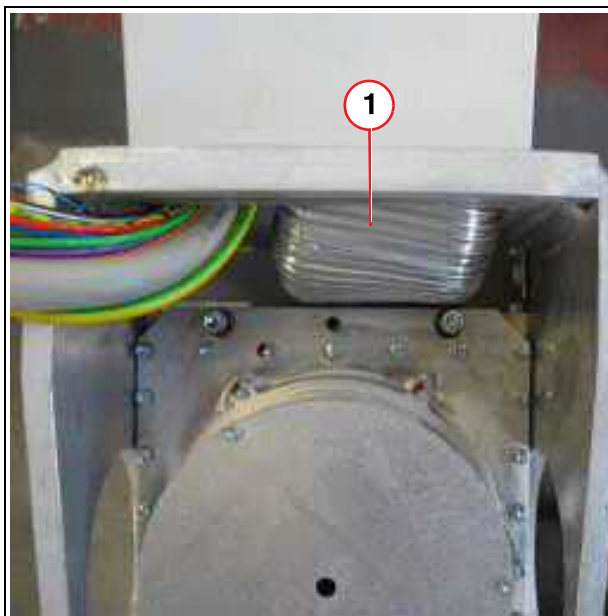

Fig. 17: fan
5. Remove the flexible tube (1/ Fig. 17 / p. 41) from the bracket of the fan.